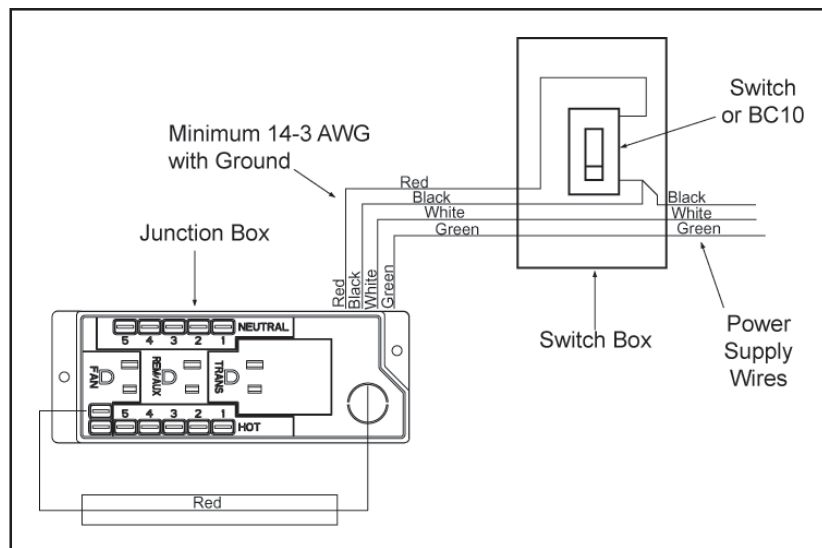

Figure 52 - Junction Box Wired to Wall Switch or BC10
c. If the box is being wired to a wall mounted switch or BC10 for use with a fan (See Figure 52):